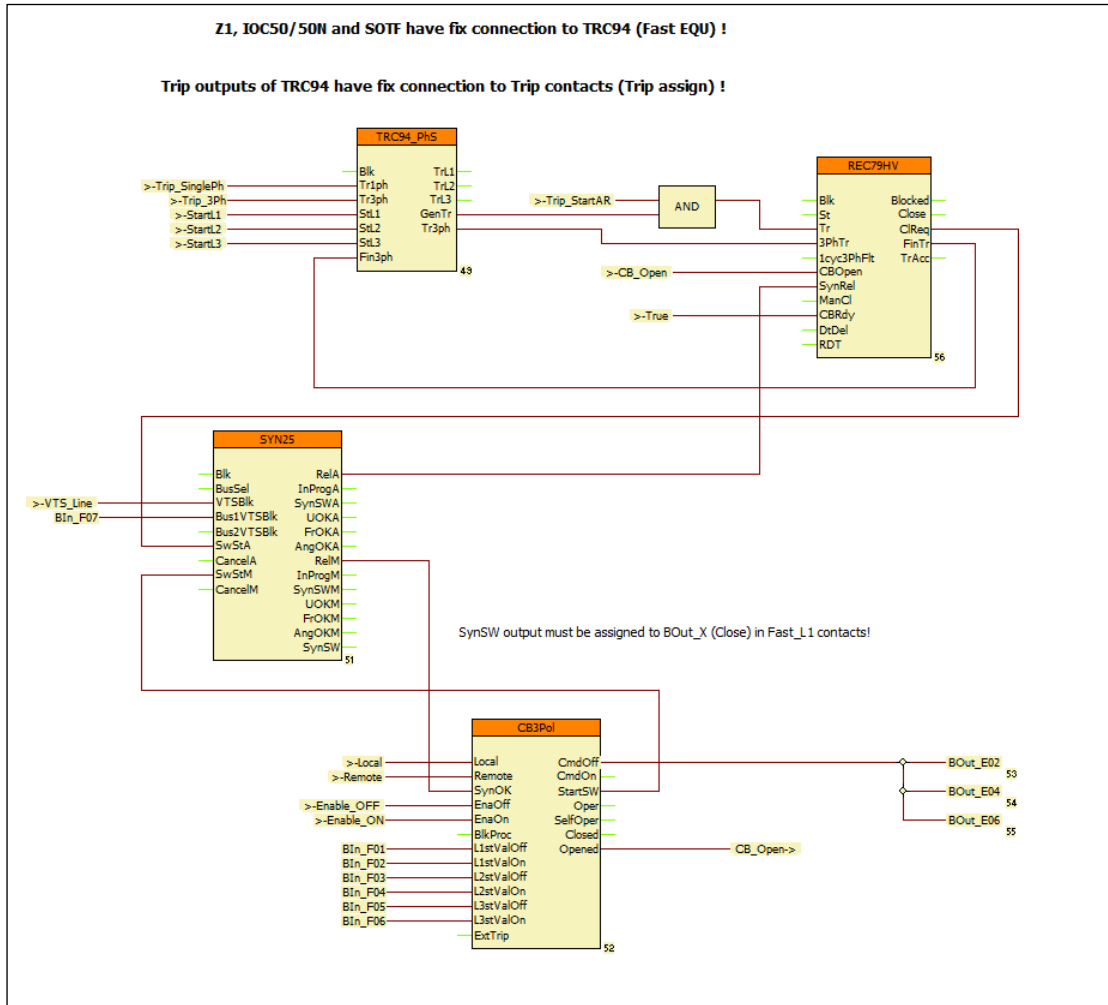

Figure 5-5 Example: closing the circuit breaker with synchro-check and synchro-switch
Figure 5-5 shows an example for the application of “SYN25” synchro-check function block with synchro switch extension. In this Figure it is supposed that the fast protection functions operate according to the factory configuration and they control the TRIP contacts applying two steps of the preparation and command generation phases. This part of the program is not visible in “Master” level. (The description of the fast operating protection functions are listed in the configuration description of the devices.)
According to *Figure 5-5*, the local command issued via LCD of the device or the remote command received from the remote SCADA system is processed by the „CB3pol” functionblock (Output „CmdOff”). This control is programmed in the factory to “BOut\_xx” variables. The user can perform any modification in the graphic programming.
In *Figure 5-5* the close command is connected directly to a dedicated output. (This is usually the fourth contact of the TRIP hardware module.)
*Figure 5-5* includes the application of the „REC79\_HV” automatic reclosing function. The start signal „Trip\_StartAR” can be programmed by the user. The automatic reclosing function is started only if the preceding trip command was performed by the circuit breaker, i.e. for example that the function is not disabled. The AND gate on this Figure performs this checking.
The evaluation of the status signals indicating the open state of the circuit breaker poles in OR gate is needed for the operation of the automatic reclosing function. According to the scheme of *Figure 5-5* the open state is indicated by at least one pole open state of the circuit breaker. (For simplicity, this Figure shows a realization without checking the FALSE signal of the closed states.)
*Figure 5-5* supposes that the CB ready signal is not connected to the device; accordingly the steady TRUE state signal is connected to the „CBRdy” input of the „REC79\_HV” automatic reclosing function. If the real signal is available, the signal must be connected similarly.